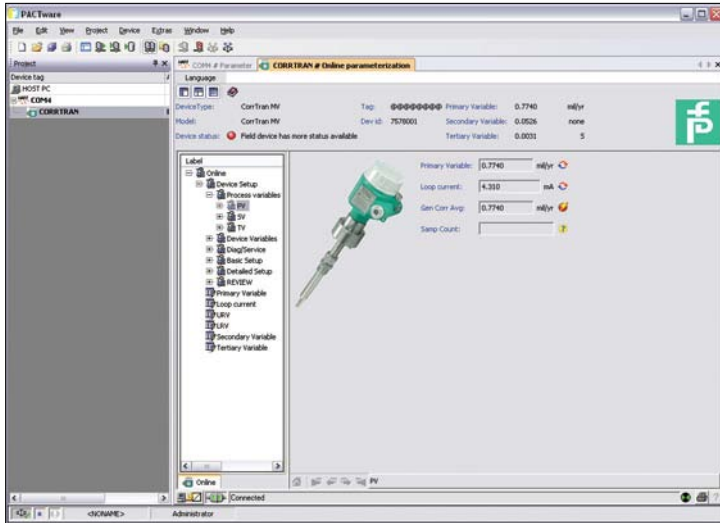

Figure 33. Process Variables – Primary Variable (read only)
- **PV – Primary Variable:** The primary variable screen includes percentage of range, loop current, average, and the sample count, which is how long the CorrTran MV has been powered in commission. Figure 33 shows a screen shot of the 'PV' page.